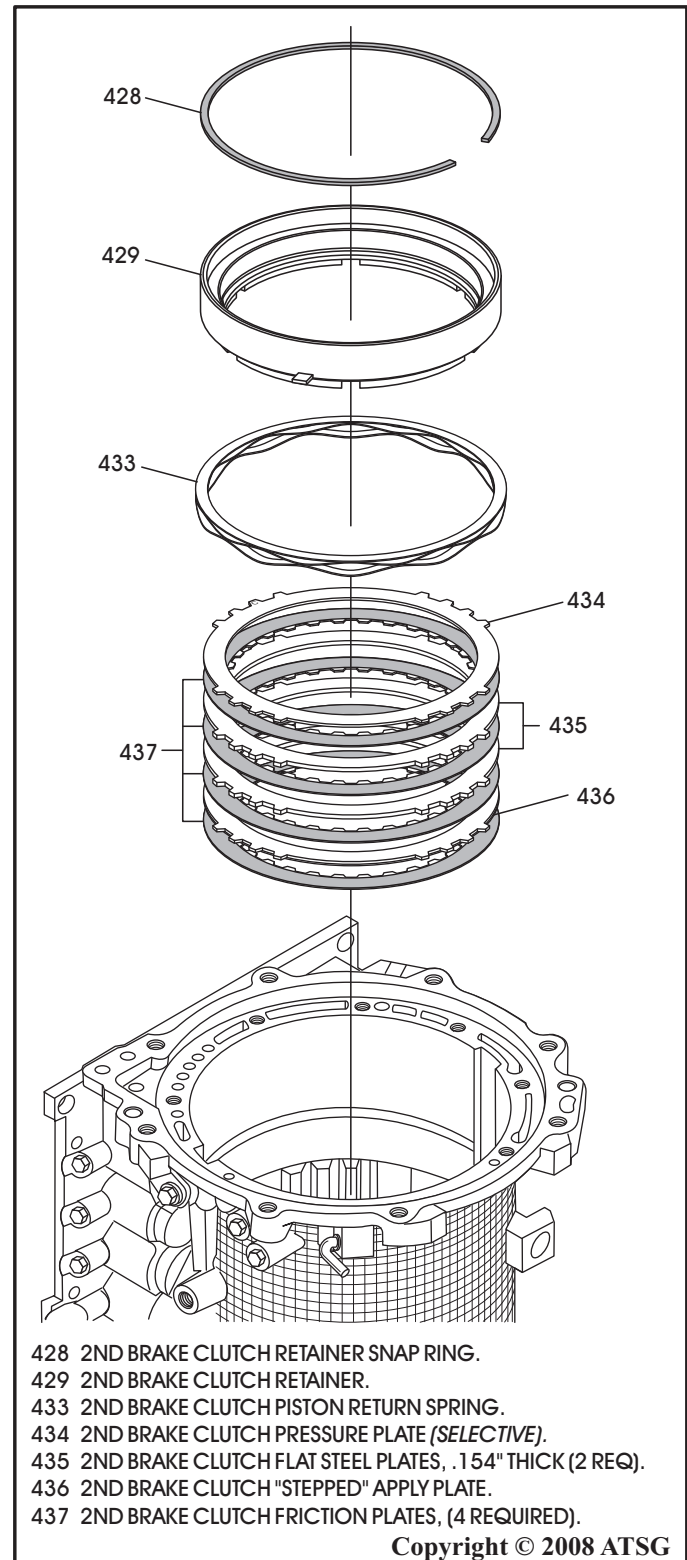

Figure 203
46. Now you can re-install the 2-4 brake clutch plates beginning with a friction and alternating with steel plates, as shown in Figure 203.
47. Install the pre-selected selective apply plate, as shown in Figure 203.
48. Install the 2-4 brake piston return spring, as shown in Figure 203.
49. Install the 2-4 brake clutch retainer and piston assembly, as shown in Figure 203.
50. Install the 2-4 clutch retainer snap ring, as shown in Figure 203.